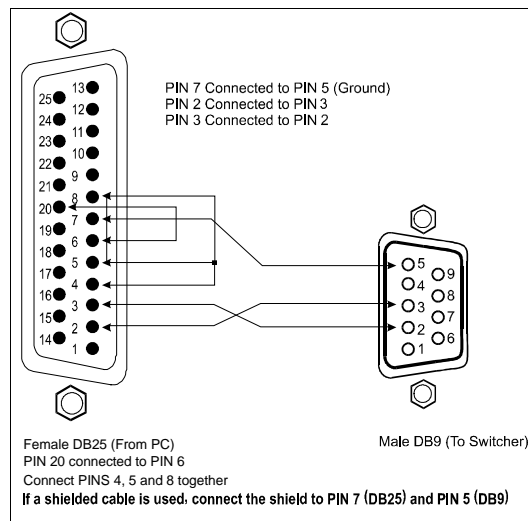

Figure 14: Connecting to a 25-pin PC COM Port without a Null-Modem Adapter
1. Connect the 25-pin D-sub COM port to the RS-232 IN 9-pin D-sub port on the **VS-162V** unit, as Figure 14 illustrates: